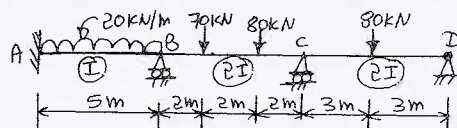

Fig.Q3 (16 Marks)
- 3 Analyze the continuous beam as shown in Fig.Q3 by moment distribution method and also determine its bending moment diagram and shear force diagram.